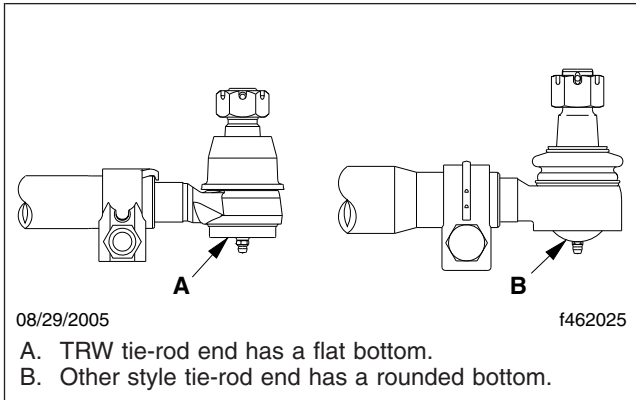
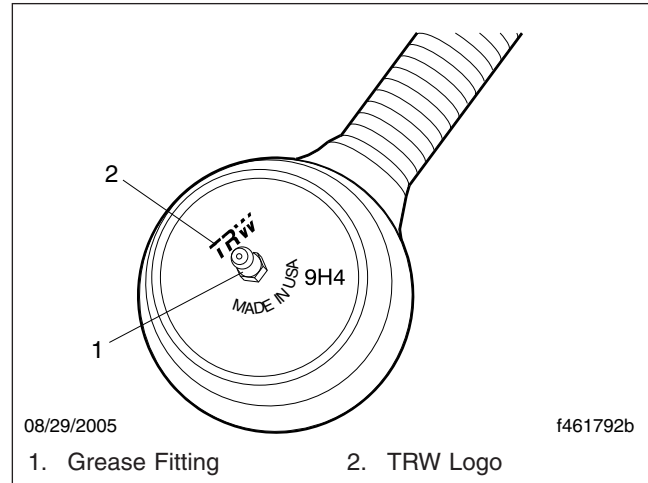
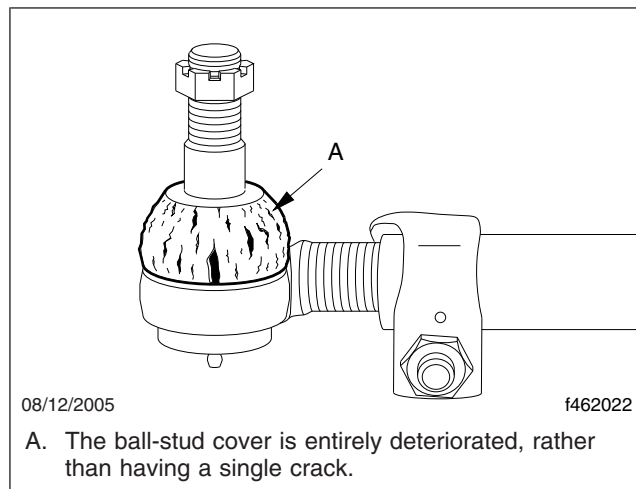

Fig. 3, Tie-Rod Ends
Fig. 4, TRW Tie-Rod End (view from bottom)
Fig. 5, Deteriorated Rubber Ball-Stud Cover (tie-rod end)
- Check the tie-rod ends to see if they are manufactured by TRW. TRW tie-rod ends are flat on the bottom. If the part is unpainted, the company logo and a date code are visible on the bottom. See Fig. 3 and Fig. 4.
- Check the ball-stud covers on the drag link and the tie-rod ends to see if they are deteriorated. See Fig. 3, Fig. 4, and Fig. 5.